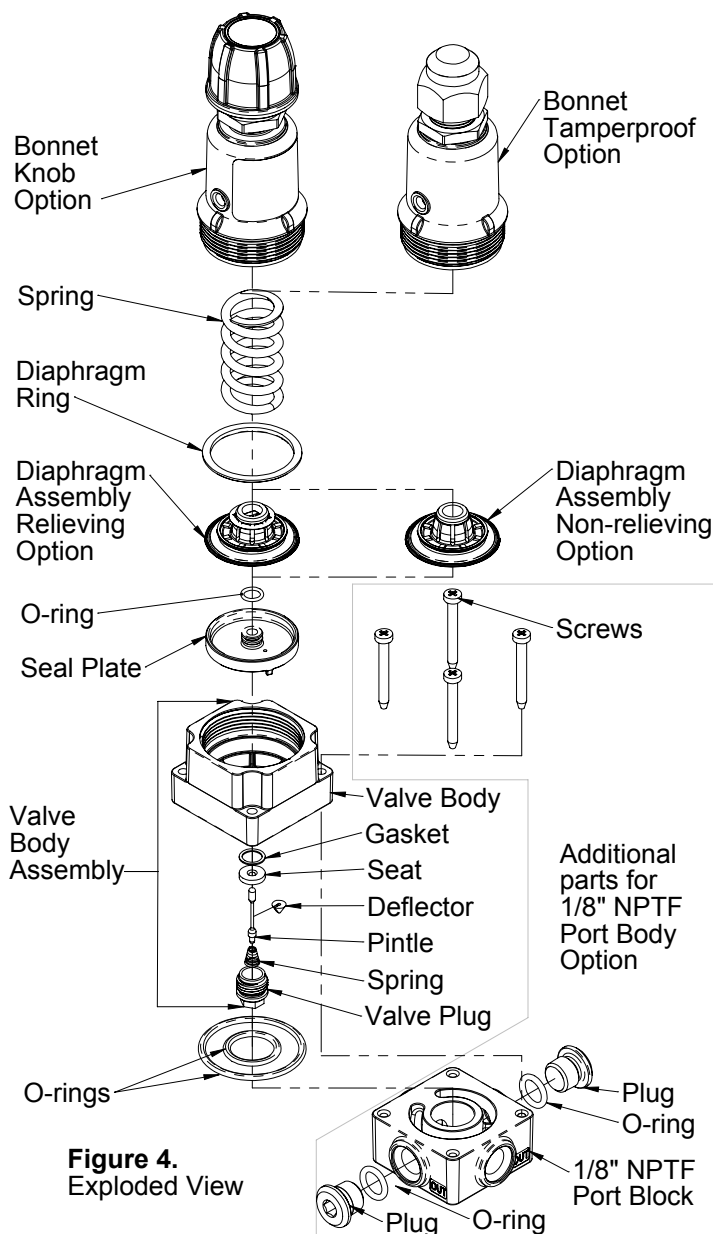

Figure 4.
2. Remove the Bonnet from the Valve Body of the unit. For more information, see Figure 4.
3. Remove the Diaphragm Assembly and Seal Plate. Remove the four screws attaching the Port Body. Remove the Port Body and unscrew the Valve Plug and remove the Valve spring. With a hollow tube, push the Seat and Pintle from the top side of the Valve Body. For more information, see Figure 4.
5. Carefully replace the Valve Assembly, installing the Pintle Spring and Valve Plug. Lightly lubricate the o-rings and install the Port Body. Install the Seal Plate, Diaphragm Assembly, Diaphragm Ring, Range Spring. Install Bonnet and torque to 60 inlb. For more information, see Figure 4.